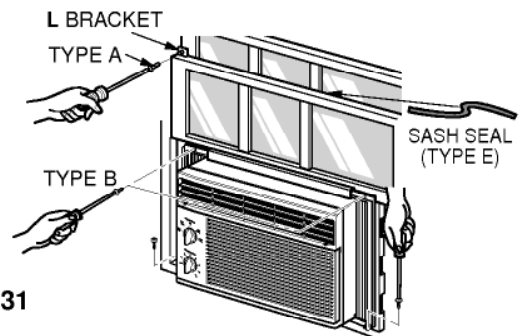

Figure 31
Extend the guide panels (TYPE F) to fill the window opening using 4 screws (TYPE B) to secure them, as shown in Figure. 31.
- a. Cut the sash seal (TYPE E) to the window width. Stuff the sash seal between the glass and the window to prevent air and insects from getting into the room, as shown in Figure. 31.
- b. Fasten the L bracket using a (TYPE A) screw, as shown in Figure. 31.